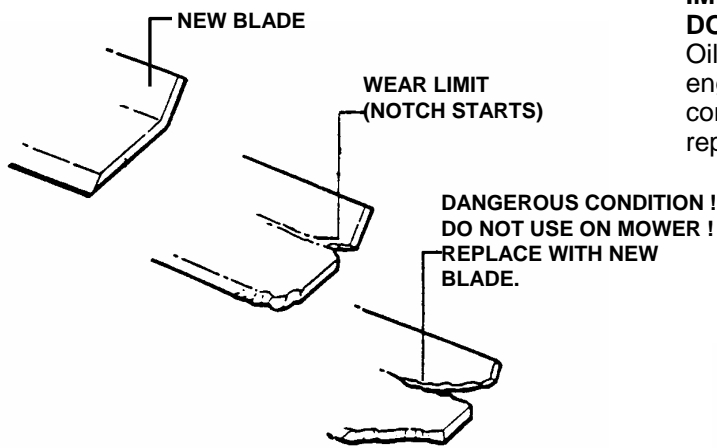

FIGURE 4.1
2. Replace the blade if it is badly chipped, bent, noticeably out of balance or has cracks or notch in either tip. See Figure 4.1 & 4.1A. Replace with new blade.
1. Inspect blade frequently for signs of excessive wear or damage. See Figure 4.1.